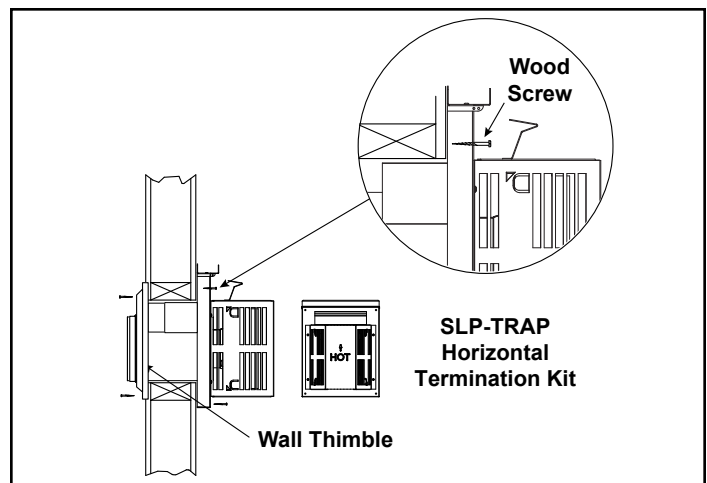

Figure 5.6
7. Position the horizontal termination cap in the center of the 10 in. x 10 in. (254 mm x 254 mm) square hole and run a bead of non-hardening mastic around its outside edges, so as to make a seal between it and the wall, attach termination cap to the exterior wall with the four wood screws provided. The arrow on the vent cap should be pointing up (Figure 5.6).